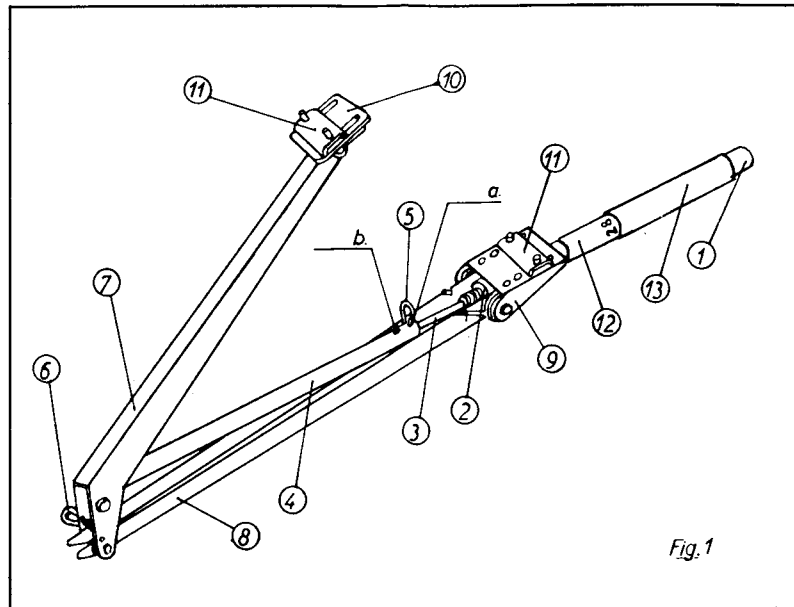

Fig. 1
See fig. 1.
Siehe Abb. 1.
- A. If the window will open at least 42 cm/16 1/2": Push the piston rod (3) into the push rod (4). The hole in the piston rod should be placed in line with hole »a« in the push rod, see fig. 1. The hairpin (5) should then be fitted through the holes, see fig. 5.